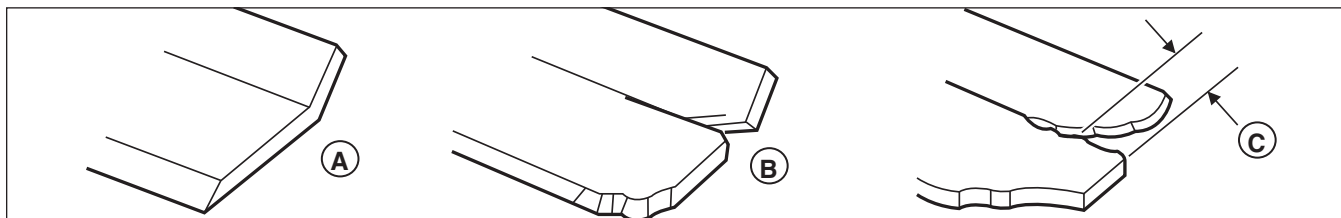

Figure 23. Inspecting the Mower Blade Air Lifts
- B.) The air lifts are excessively eroded (**B & C**, **Figure 23**) and the notch (**C**) is .25" (6,35 mm) deep or greater.